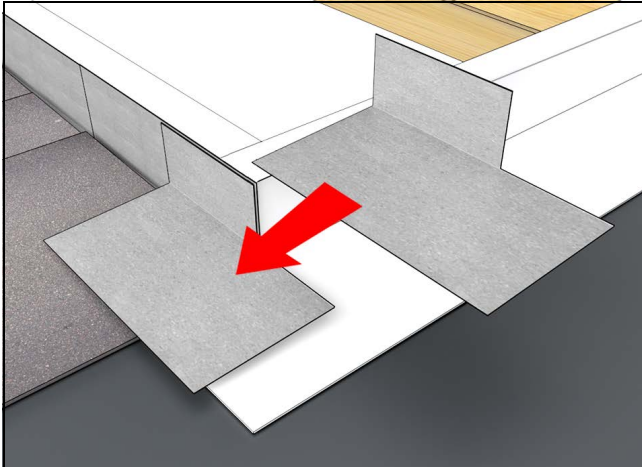

Figure 38
9. Last course is extended beyond the head jamb of 2"-4". *Note: Vertical leg should be removed flush to head jamb.* See Figure 38.